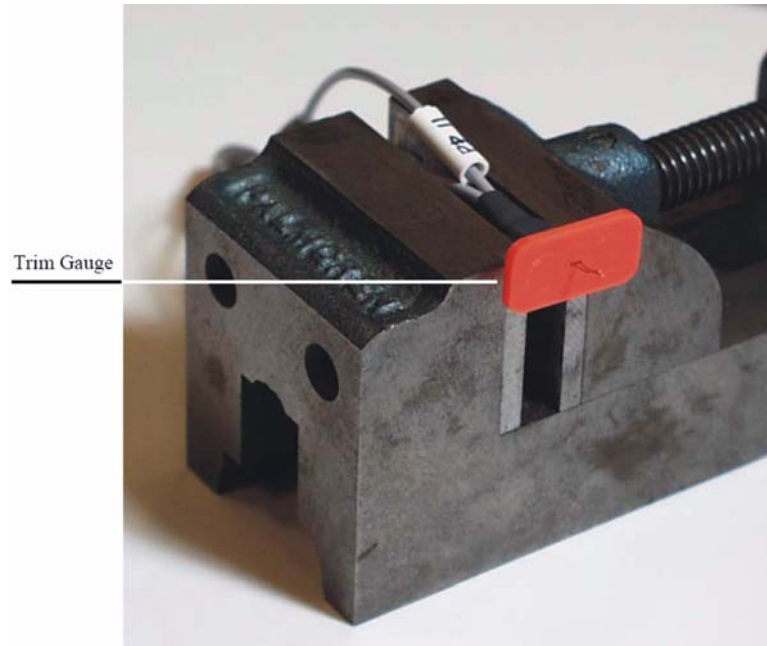

Figure 2-27 Use trim gauge to gauge the wire
- 8** Place the wires through the hole in the trim gauge with the probe head perpendicular to the trim gauge. Refer to Figure 2-27.